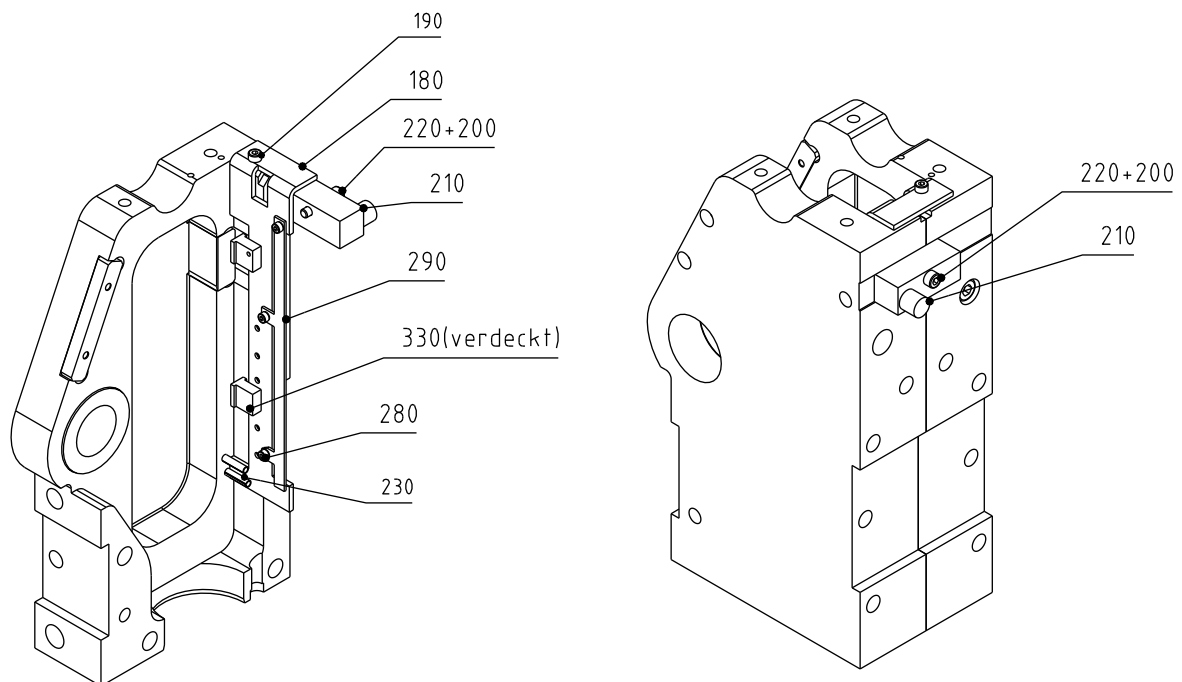

Fig. 2: Exchange of limit switches
- Connect electro-coupling corresponding to the electrical design (see circuit diagram fig. 3) onto the connection plug "M12" (fig. 2) and tighten the screws.